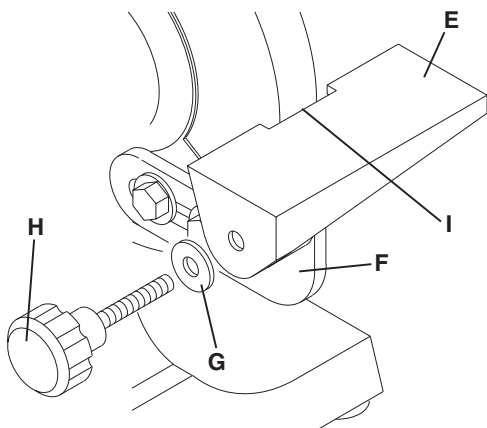

Figure 4 - Assemble tool rests to supports
2. Assemble the tool rests (E) to the supports (F) with the flat washers (G) and adjustment knobs (H) as shown. See Figure 4.
3. Adjust each tool rest until its inside edge (I) is 1/16" from the grinding wheel. Firmly tighten the hex head screws holding the supports. See Figure 4.